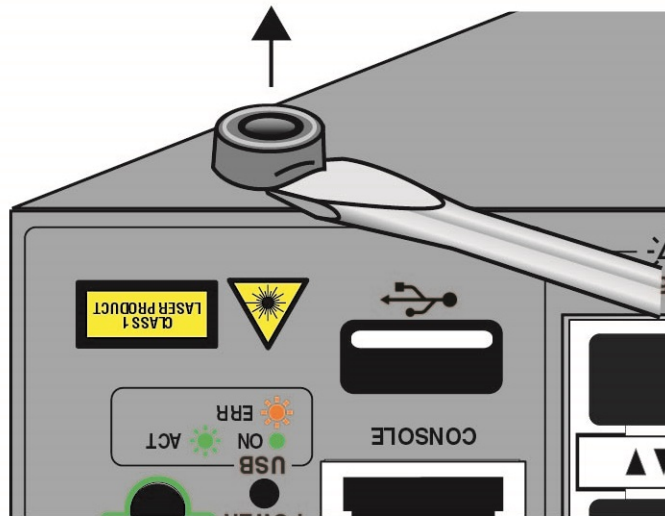

Figure 32. Removing the Bumper Feet
2. Use a small flat-head screwdriver to pry the feet from the bottom of the switch. Refer to Figure 32.